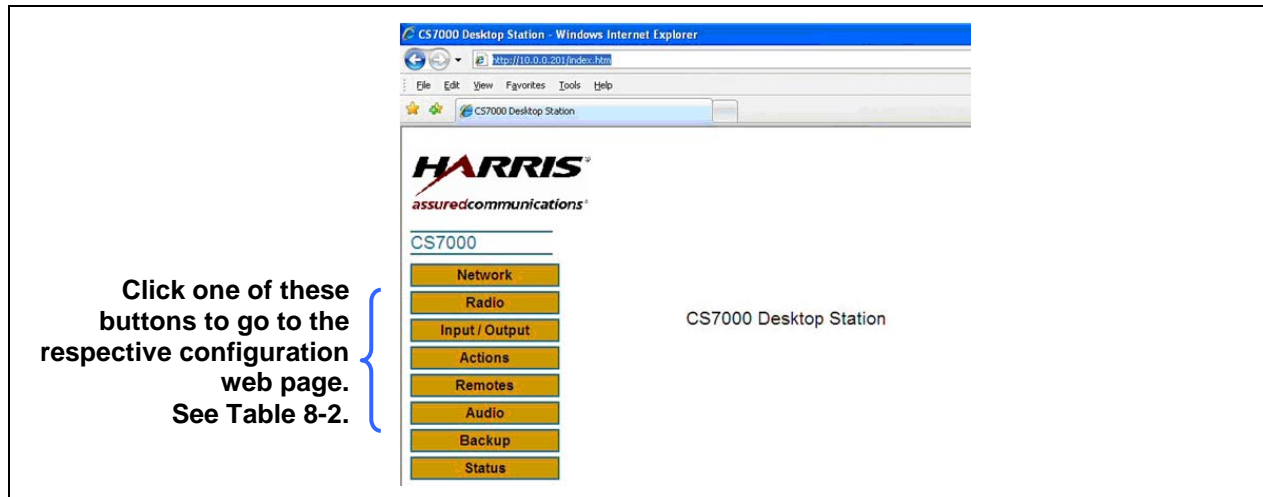

Figure 8-8: Configuration Program's Top-Level Web Page
After logging into the configuration program, the program’s top-level page will appear, as illustrated in Figure 8-8. The eight (8) buttons on the left-hand side will bring up the configuration web pages. Most of the program’s configuration web pages have a tab-format which divides related configuration tasks.